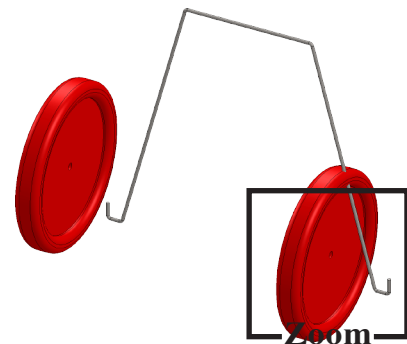

Fig. 3
Step 1. Zoom in around **wheel hole and end of wire**, **Fig. 3**. To zoom, place the cursor over the hole/end of wire and spin the wheel on mouse back. While spinning the wheel keep cursor on the area.